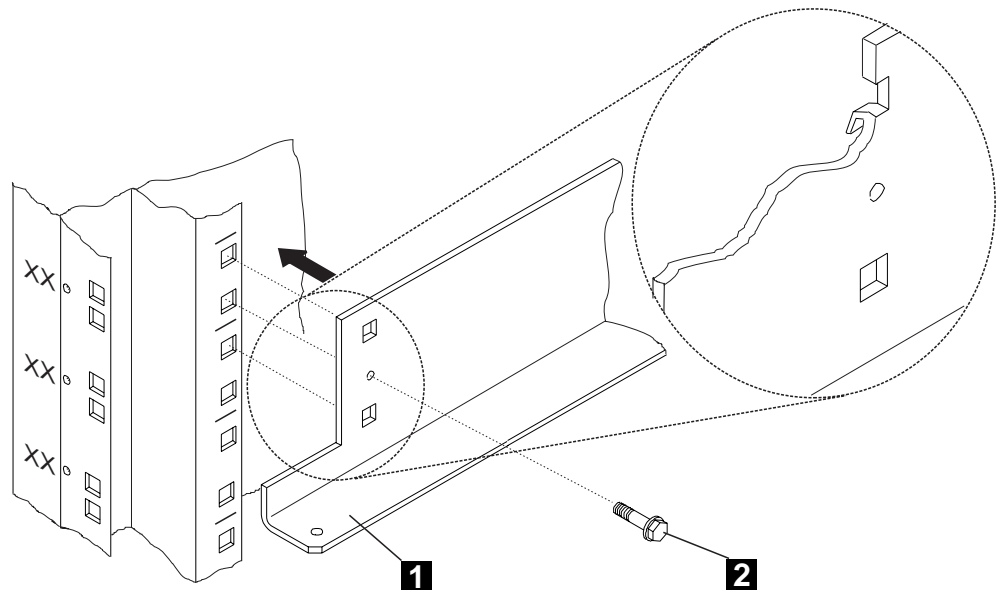

Figure 1-2. Brackets Installation
3. ____ **Install** two brackets **1** (PN 58G5793) using four screws **2** (PN 2665527) in the controller expansion as shown in Figure 1-2.